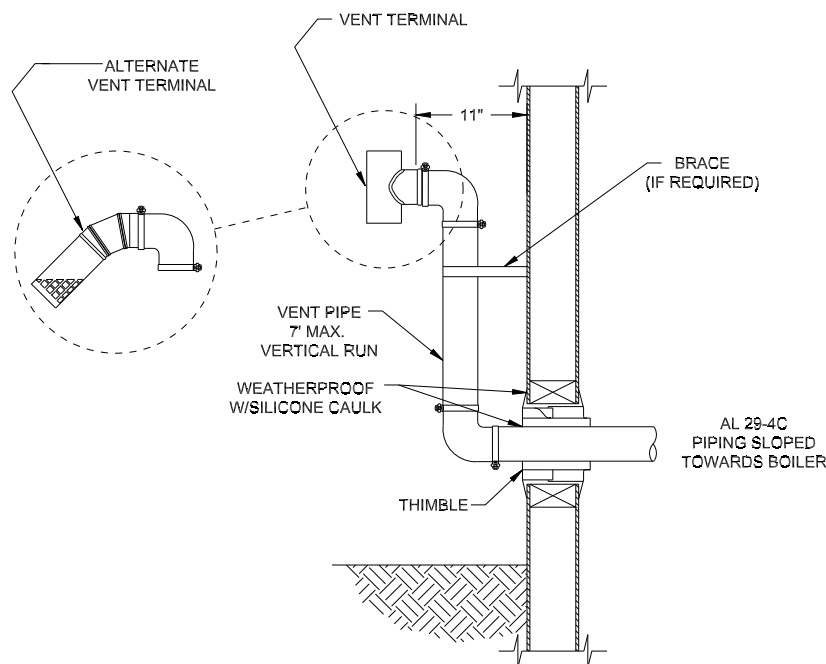

Figure 7-5: Optional Terminal Offset for Horizontal Vent Systems
- E. Terminal Offsets - Tee terminals may be offset by as much as 7 ft. as shown in Figure 7-5. This sometimes helps maintain the 12 in. minimum clearance required above the snow line. The extra two elbows and the section of vertical pipe on the outside of the building must be counted when checking that the maximum vent pipe length is not exceeded. When this offset is used, the horizontal section of vent pipe must be pitched away from the outside so that condensate cannot collect in the lower offset elbow.